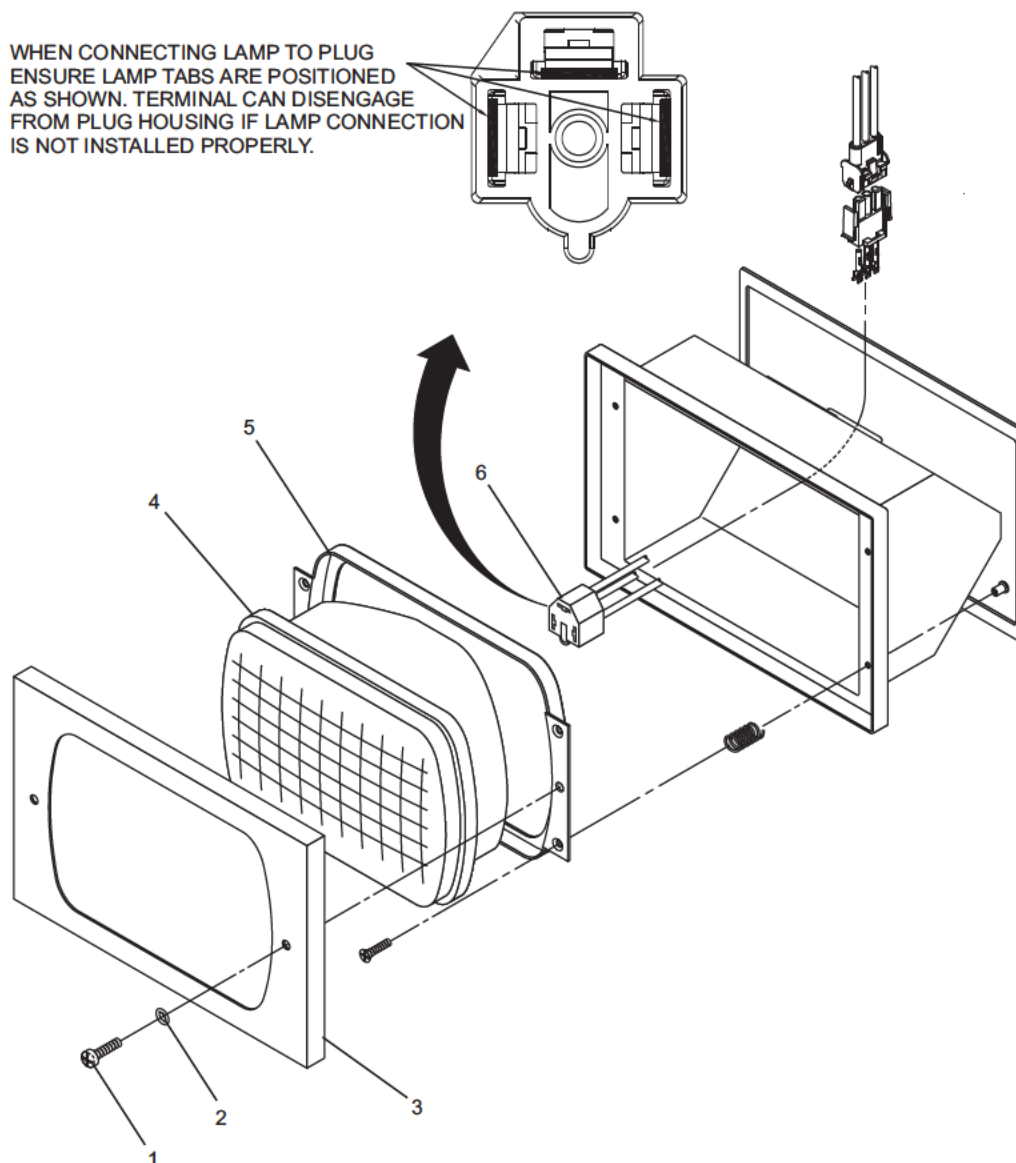

Figure 7-11: Replace Headlight Lamp
2. Remove two catch screws (1, Figure 7-11) and two round washers (2) from the bezel (3).
3. Partially remove the lamp (4) from the mounting plate (5).
4. Disconnect the 3-conductor socket (6) from the lamp (4).
5. Connect replacement lamp (4) to the 3-conductor socket (6).
6. Install the lamp (4) into the mounting plate (5).
7. Install bezel (3) using two catch screws (1) and two round washers (2).